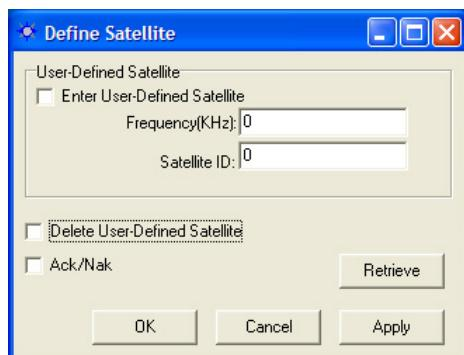

Figure 77: Define Satellite Window
With direction from NavCom, select this option to add (or delete) one licensed user-defined StarFire™ satellite to be available for automatic or manual selection (see Figure 77). The user-defined satellite is a new satellite in the StarFire™ network or a backup StarFire™ satellite.
- ✓ Select *Receiver > Setup > StarFire™ > Define Satellite*. The *Define Satellite* window opens (see Figure 77).